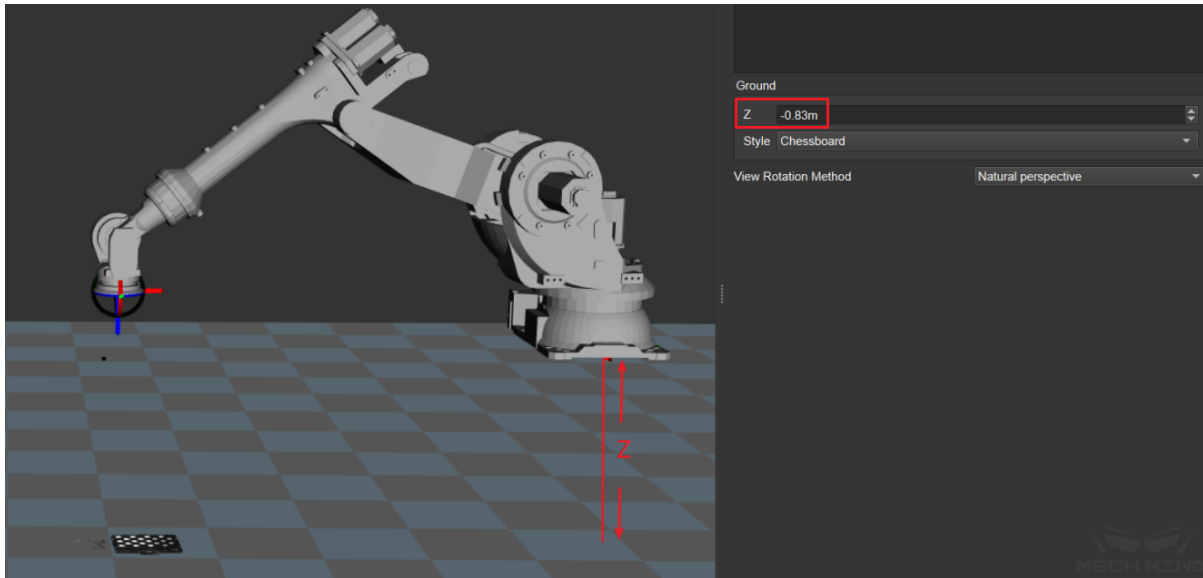

Figure 3 Adjust the Ground Height in Mech-Viz
3. Measure the distance from the base coordinate of the robot to the working plane. In Mech-Viz, set the ground height to this distance. As shown in *Figure 3* below: